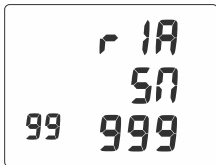

Fig. 42 - SERIAL NUMBER
- Depressing and holding the S (Side) button for 12 seconds while viewing the NOR (or GAU) SURF MAIN screen will access the Mask's SERIAL NUMBER screen, displaying (Fig. 42):